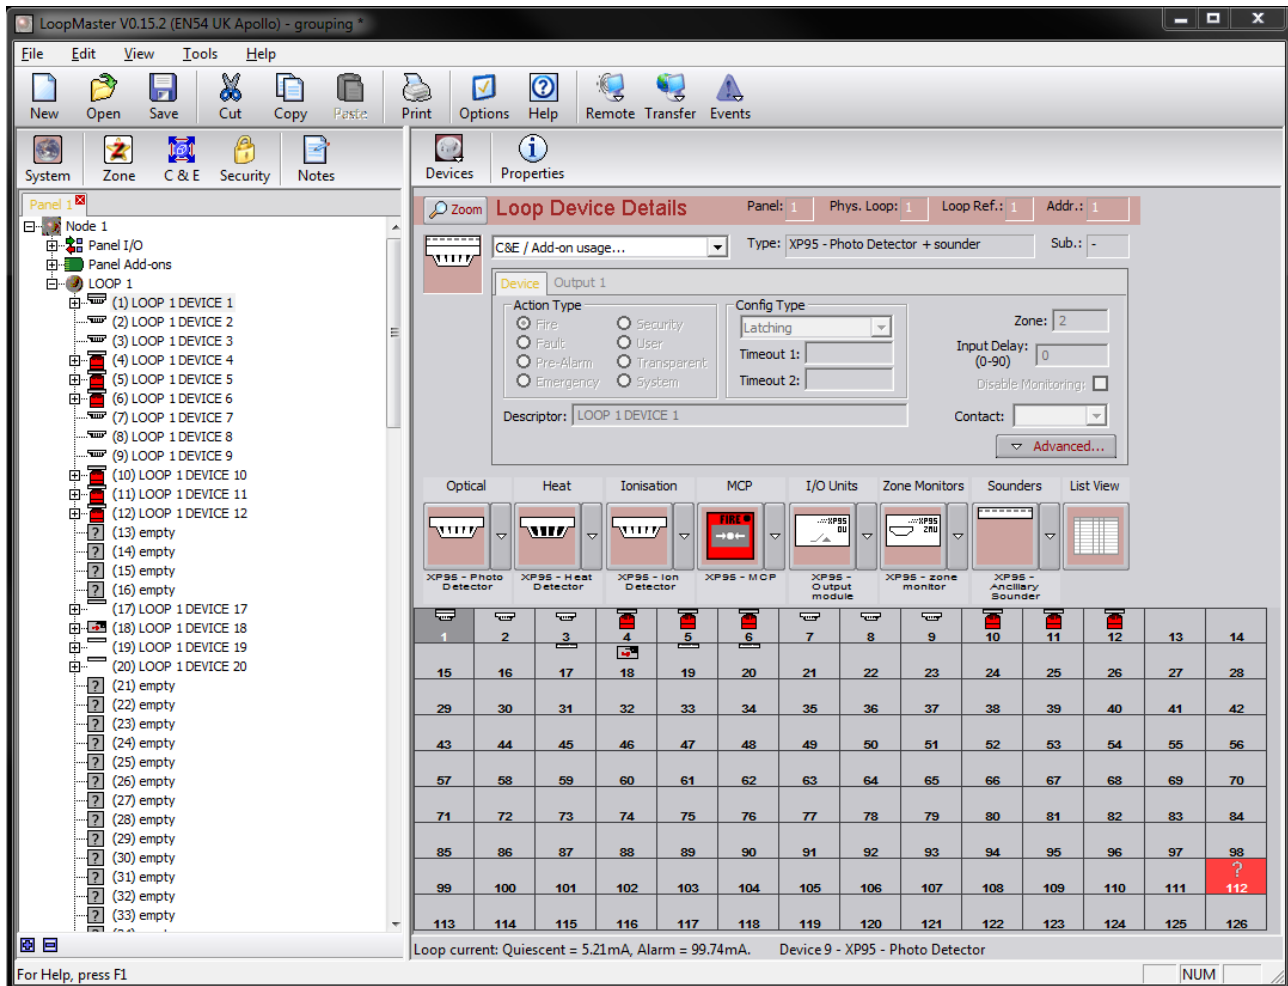

Figure 5: Sounder Grouping showing the reserved addresses (Group1 (112))
- Fifteen group addresses per loop. Means device addresses from 112 to 126 are not available for device allocation but may be used for sounders within the same group (See Figure 5)